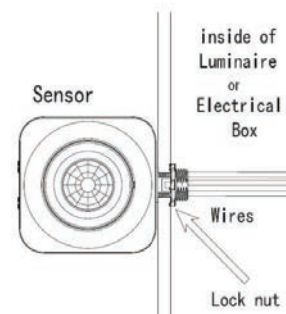

Fig 2A
2. Slide the lock-nut over the wires and thread clockwise on to the threaded nipple to secure the sensor firmly in place making sure the lens is orientated towards the area to be monitored (-field-of-view).(refer to Fig 2A)